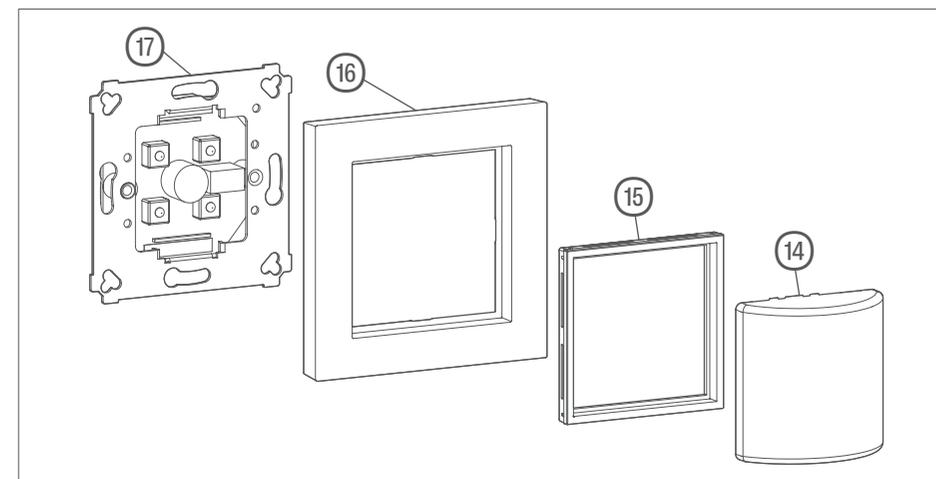

Figure 19: Assembly, shown using the pilot lamp as an example
- ⑭ Cover, pilot lamp
- ⑮ Adapter ring
⑩ Frame
⑪ Pilot lamp insert
- Screw insert (Figure 19, 17) of the device on the supporting ring to the wall box. A deep wall box is recommended for the pilot lamp.
- Hold the frame and adapter ring over the supporting ring and attach the central plate (Figure 19, 14–16).